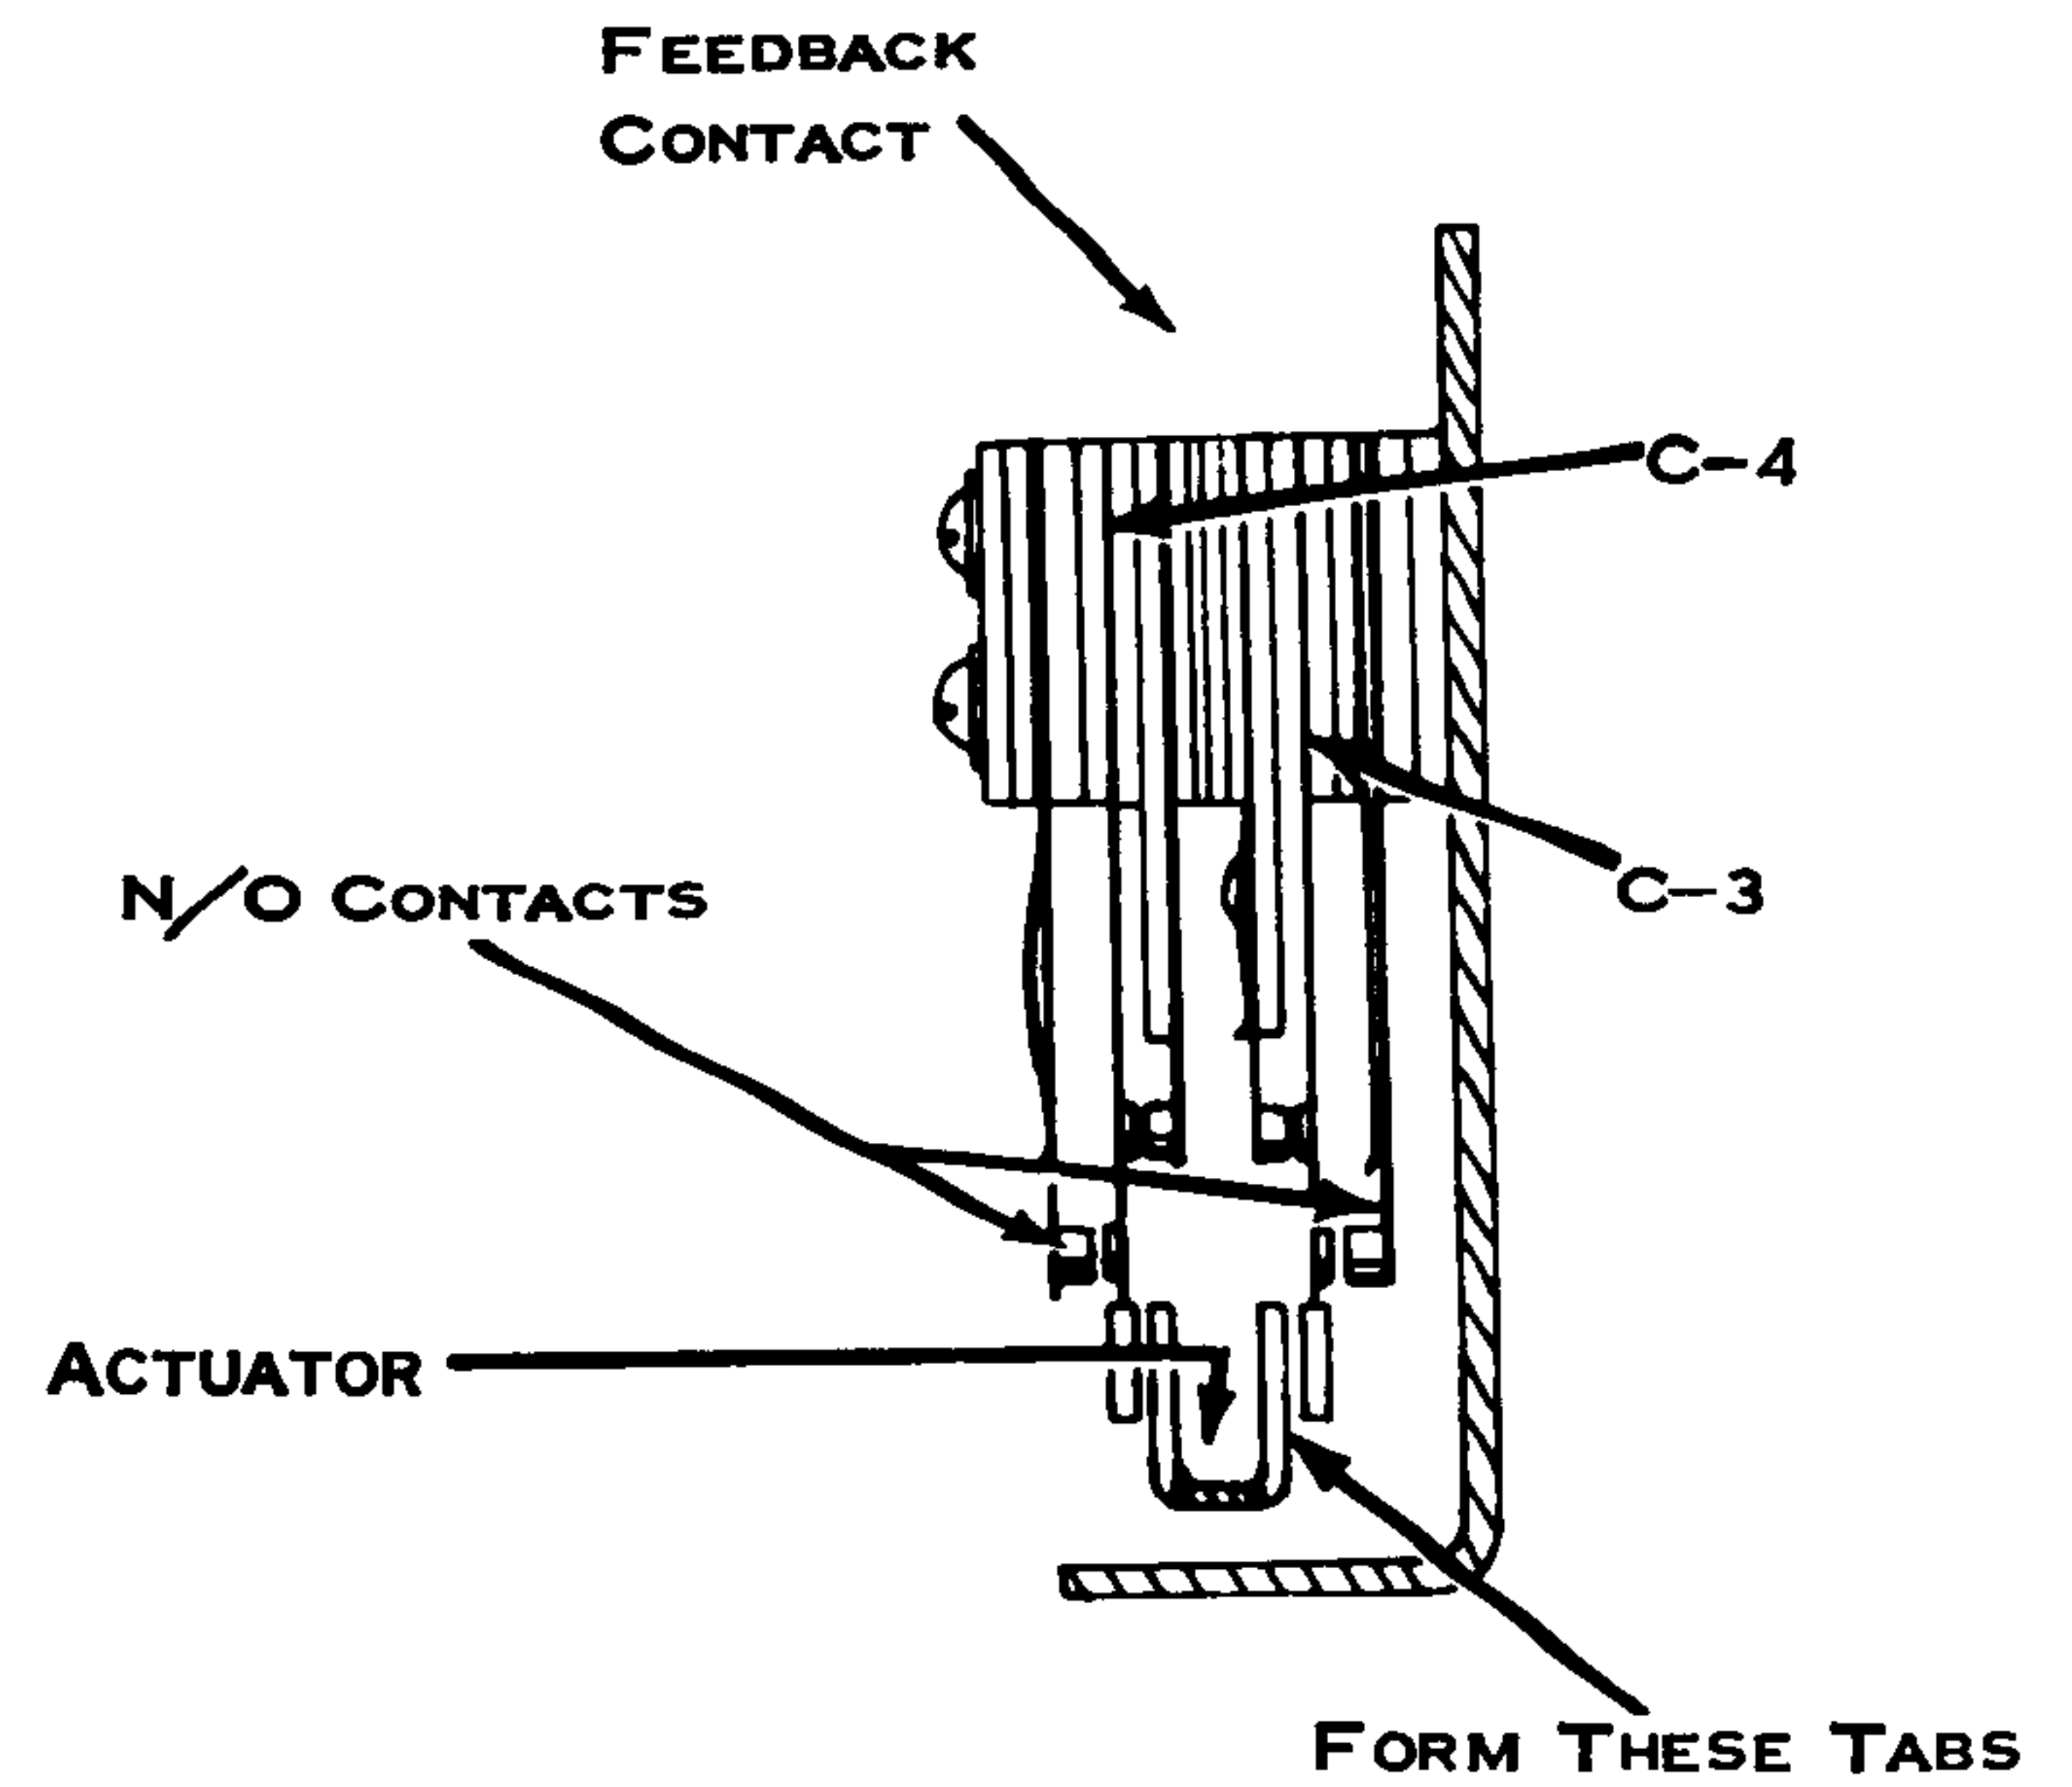

Figure 105. Actuator Tabs
- Actuator Tabs (Fig. 105) - Form so both N/O contacts receive equal motion as the shift cam rotates through  $360^\circ$ .